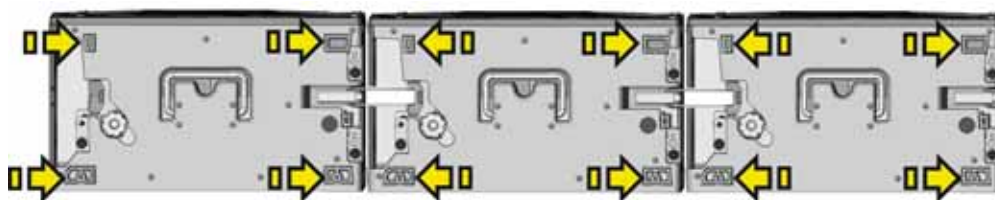

Figure 2-11 Interface Pads Along Top of MicroTiles
10. Once the first row is assembled, place a straight edge onto the interface pads (**Figure 2-11**), along the top of each tile to ensure the row is flat. If needed, adjust the vertical screws (if mounted to leveling feet) and the horizontal adjustment screws. **NOTICE:** *Poor alignment of the first row limits the size of the array that can be built.*